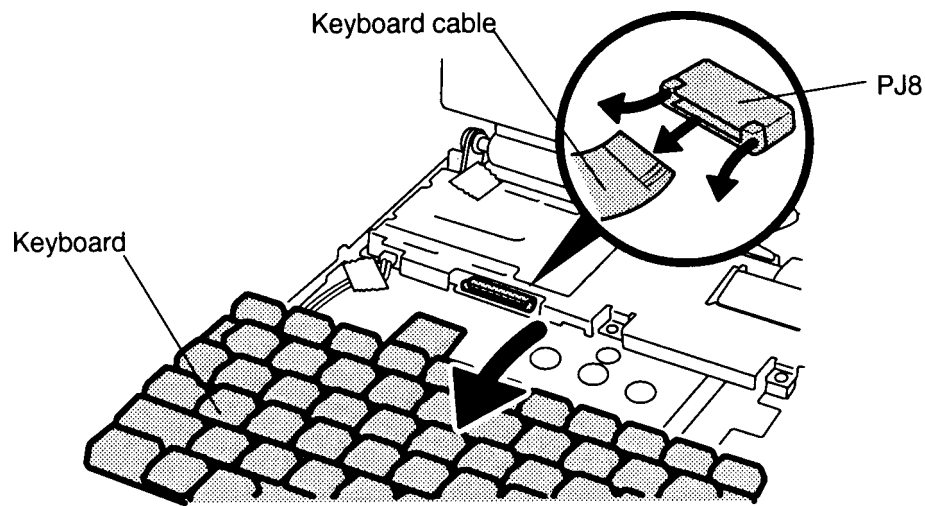

Figure 4-14 Removing the keyboard
To remove the T4850CT's keyboard, follow the steps below and refer to Figure 4-14.
To install the keyboard, follow the steps below and refer to Figures 4-14 and 4-15.
1. Connect the **keyboard cable** to **pressure plate connector (PJ8)** on the upper system board (Figure 4-14).